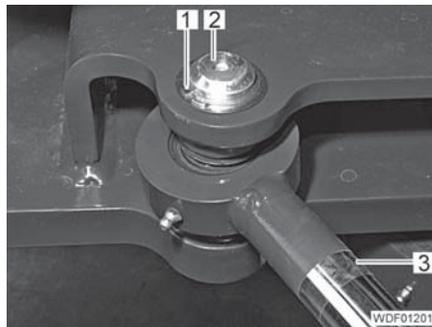

Fig. 129 Steering cylinder, rod end
- Remove the locking ring (Fig. 129,1) and take off the washer.
- Drive out the pin (Fig. 129,2) downwards.
- Hold and guide the piston rod (Fig. 129,3) in the painted area.